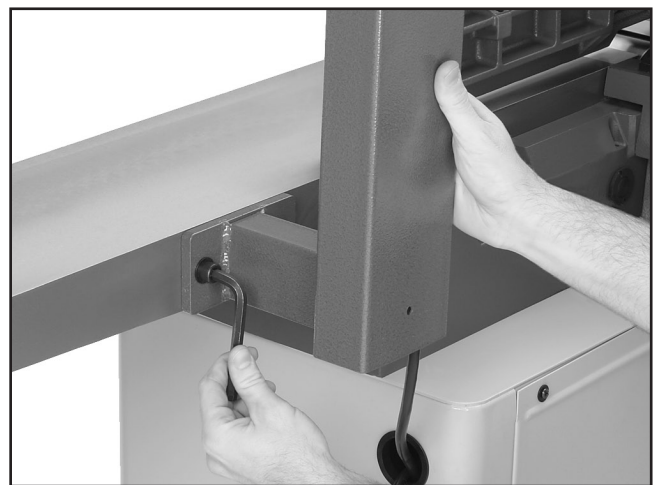

Figure 18. Attaching pedestal switch to stand.
1. Attach the pedestal switch with the cap screws, lock washers, and flat washers, as shown in **Figure 18**.